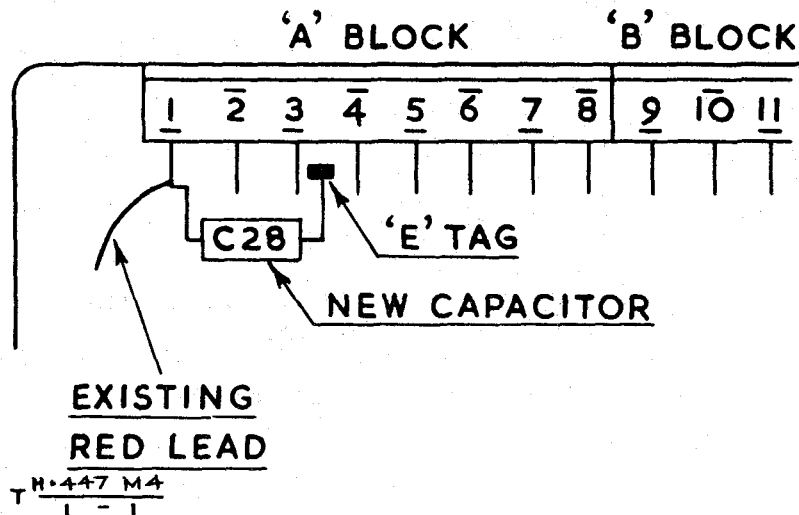

Fig 1 - Position of new capacitor C28
- (f) Fit the new capacitor (C28) between tag A1 and the adjacent earth tag as shown in Fig 1.
- (h) Strike through the figure 1 on the r.f. unit modification record plate.